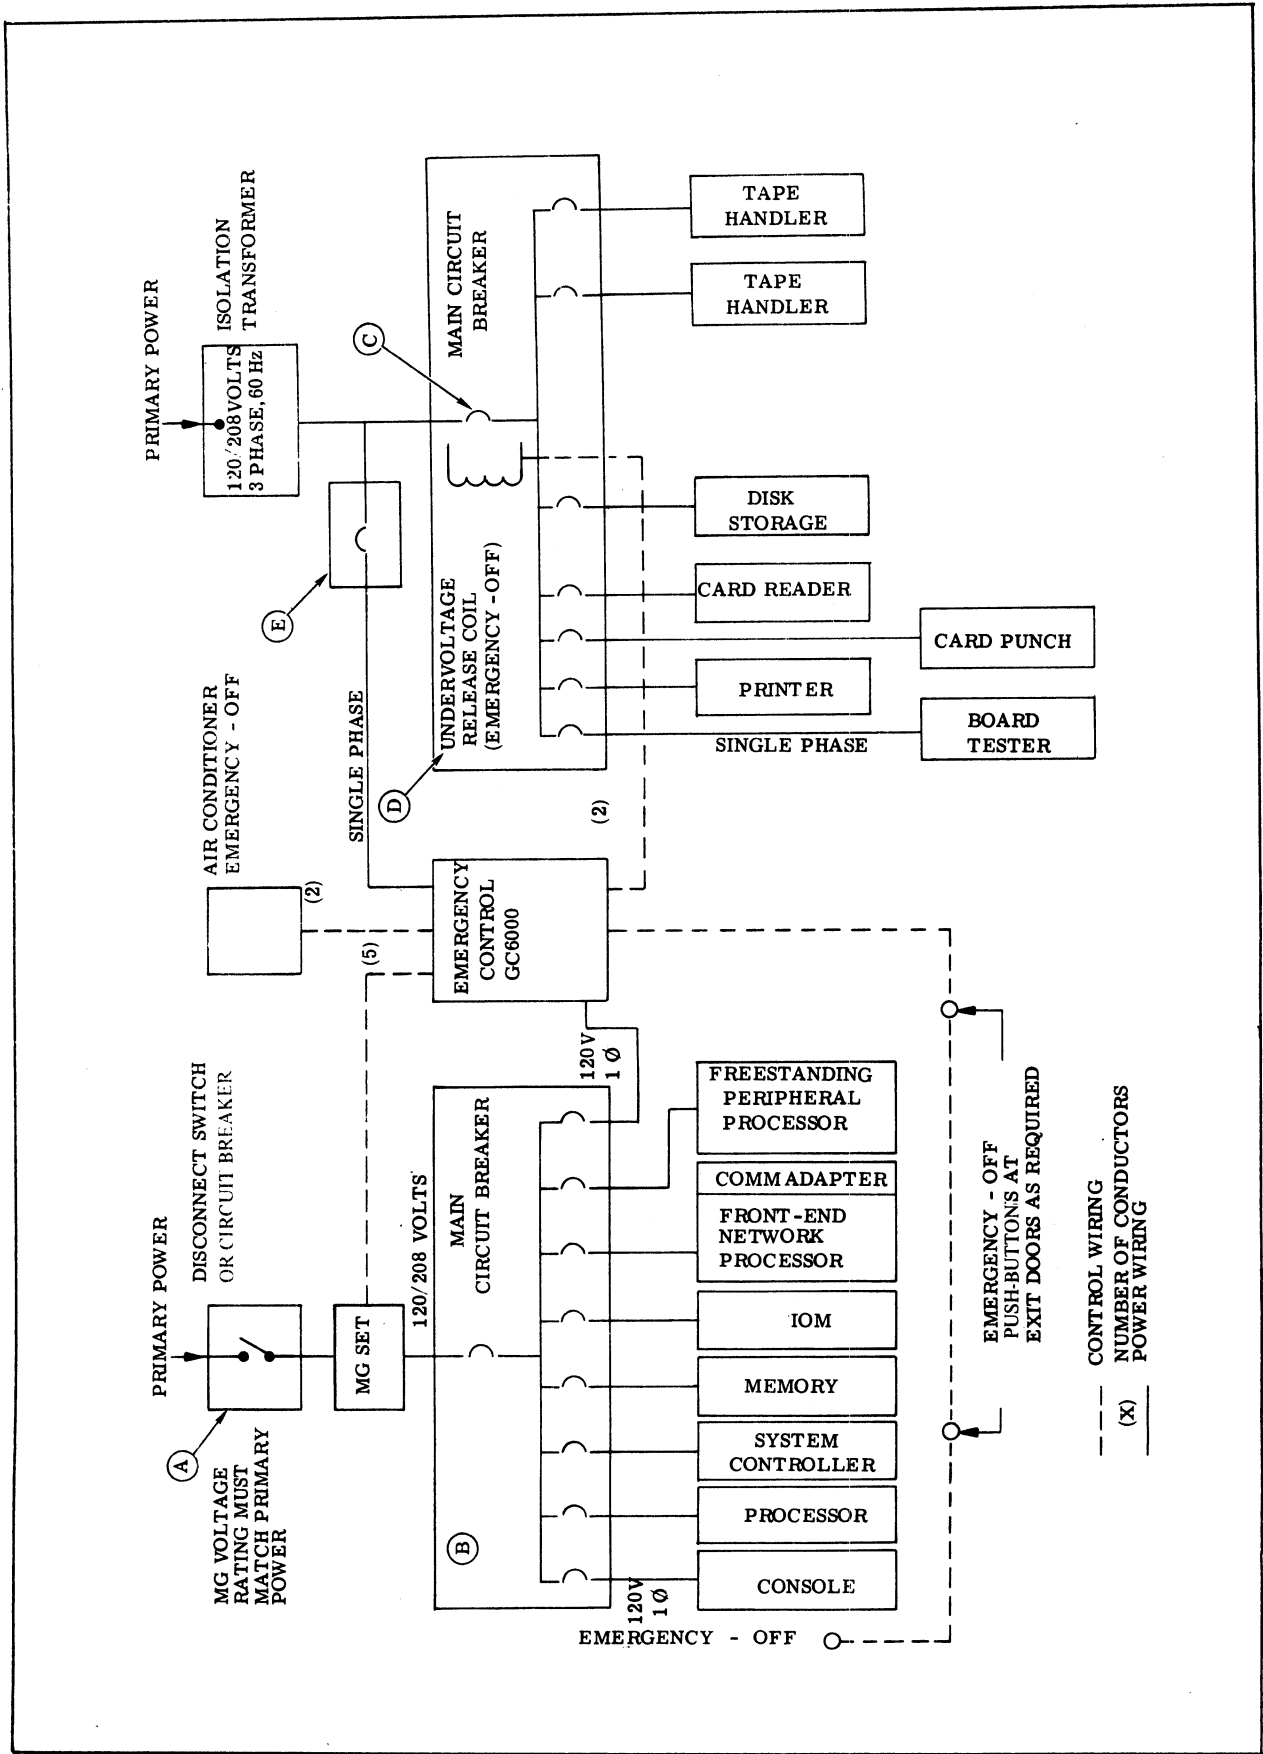

Figure 2-1. Power System Diagram
Installation in facilities that have 50-Hz ac power requires frequency conversion. Two or more MG sets are required, at least one for the central computer system and one or more for the peripheral equipment. Regardless of the system size, central system equipment and peripheral equipment must not be connected to the same MG set. (Refer to Figure 2-1.)
Figure 2-1 shows a typical power system diagram. It is the customer's responsibility to supply and install the following materials. (See Section 4 for required breaker capacities.)
3. The 10-A breaker must be connected to the utility as shown in Figure 2-1 (Reference E) to permit the air conditioner to start up automatically after a power line outage. When power is lost, the main circuit breaker in the peripheral load center must be manually reset to restore power to the devices it supplies. If the MG Control Unit took power from the peripheral distribution panel, air conditioning is not restored until the main breakers are reset.